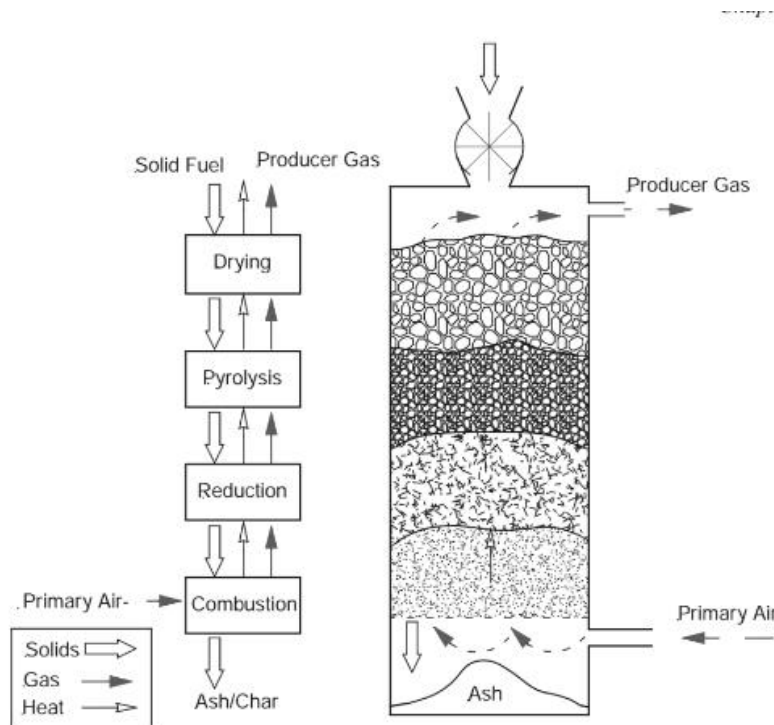

Figure-7: Updraft gasifier.
- ✓ updraft gasification system has been shown by **Figure-7**
- ✓ schematically, the fluidized-bed gasifier is shown in Figure-7